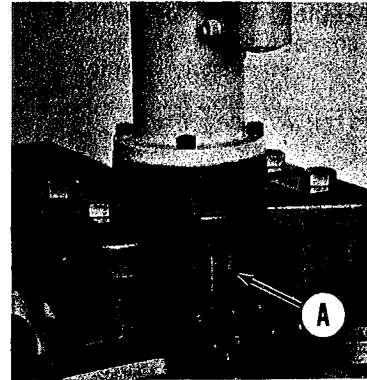
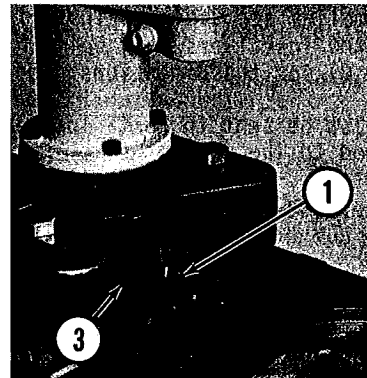

Fig. 9
Fig. 10
8. Clean cutter plate slot (A Figure 9) before installing the cutter. (#1 Figure 10) into slot (A). Pull cutter (1) out approximately .12" over the top face of the cylinder block, while setting for depth of cut is made. Tighten screw (3). Carefully loosen knob (4) to lower the boring bar until cutter (1) is against the top face of the cutter block.